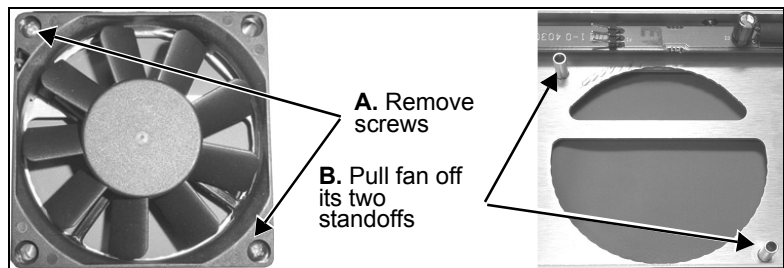

Figure 2-15. Removing a Fan from the Assembly
6. Unscrew the fan, and then pull it firmly away from the assembly to remove it from the standoffs (see Figure 2-15).